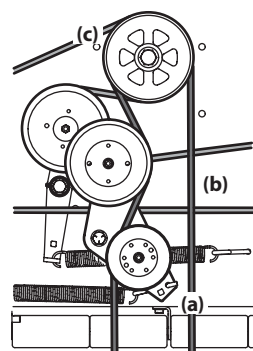

Figure 4-15
3. Using a 1/2" drive in the idler pulley bracket (a), turn the wrench towards the right of the tractor and slide the PTO belt (b) off the PTO pulley (c). See Figure 4-15.